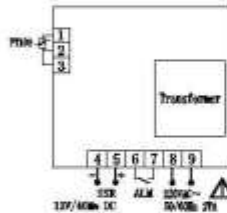

FIG. 1 [PCD-C6001-ZF]
- Wiring according to the Figure 1 and Figure 2 terminal, check and confirm the correct.